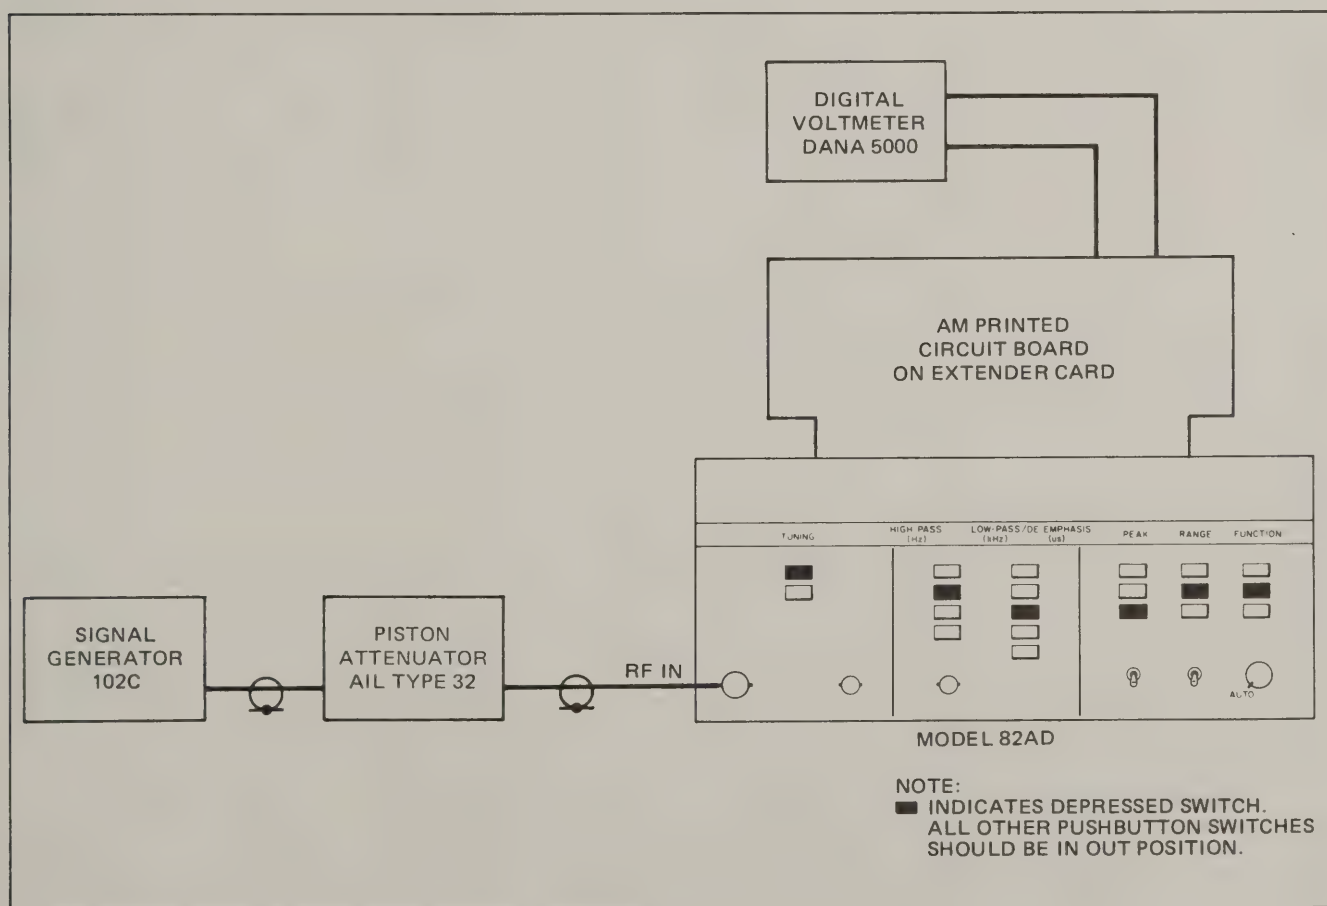

Figure 4-9 AM Adjustment Subsequent Test Setup
f. Connect the equipment as shown in Figure 4-9. Depress the indicated Model 82AD switches. Detent the LEVEL control out of the AUTO position, but leave it set at the maximum counterclockwise setting.